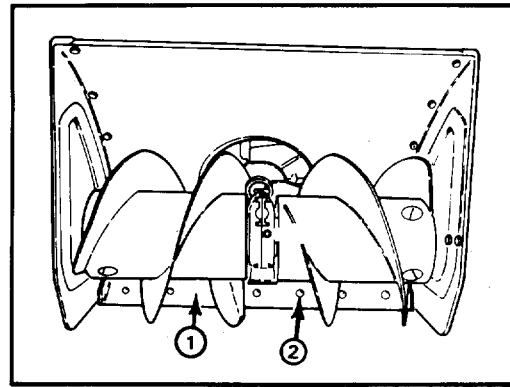

Figure 19
3. Next, loosen the (6) carriage bolts securing the scraper to the auger housing (Fig. 19).